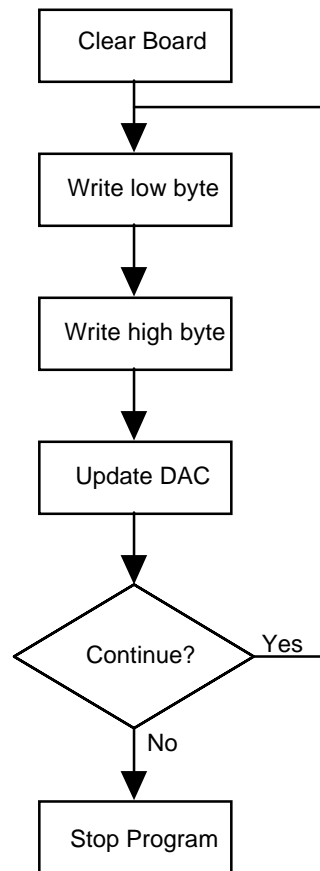

Fig. 4-11 — D/A Conversion Flow Diagram
• **D/A Conversion Flow Diagram (Figure 4-11)**